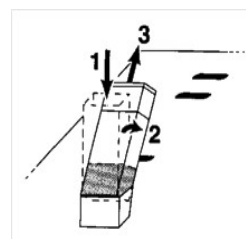

Fig. 2C
3. Excise the gel band by tilting *Gel-PICK*[™] to one side and lifting it (see Fig 2C).